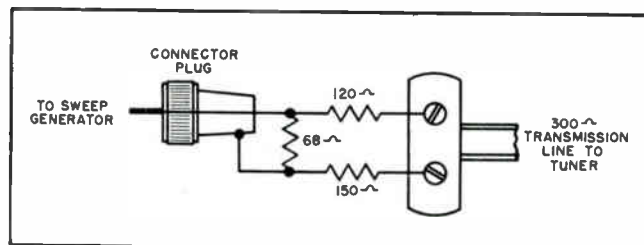

Figure 1. Matching device suitable for tuner alignment work. Keep the lead lengths between the connector plug and the resistor network as short as possible.
2. The sweep generator output *must* be properly matched to the tuner input. A suitable matching device is shown in figure 1. It consists of a connector plug, which fits the generator output and three half-watt resistors.